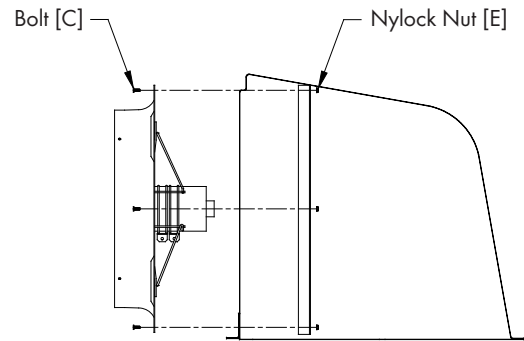

Figure 10
Slide Fan or Fan with FPTA up into FPTR and place against the 3" angles and push to top of FPTR. Using the pre-drilled holes in the fan's flange, drill thru the angle pieces and attach fan using (3) Bolts [C] and Nylock Nuts [E] in each side. *See Figure 10.*